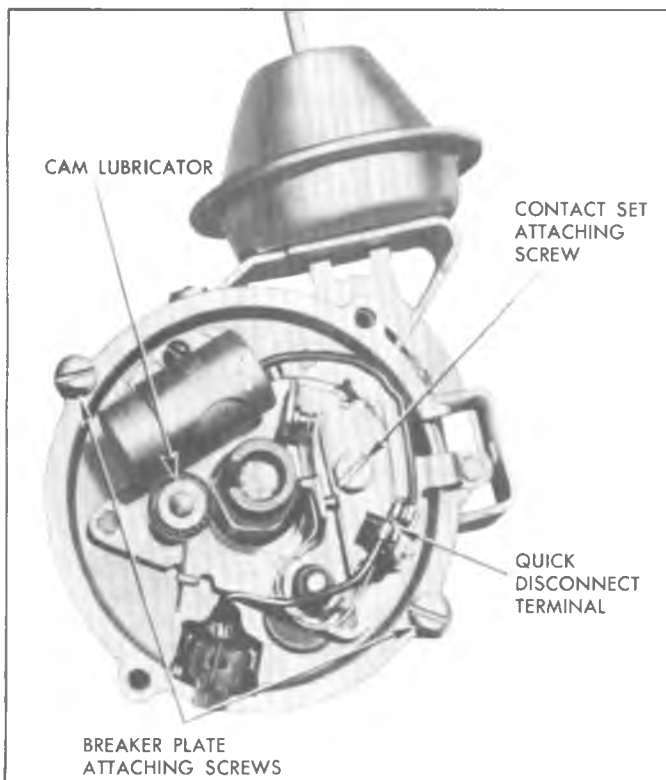

Fig. 13i—Breaker Plate and Attaching Parts
3. Pull primary and condenser lead wires from contact point quick disconnect terminal (fig. 13i).
**Six Cylinder Engine Distributor (Fig. 13i)**